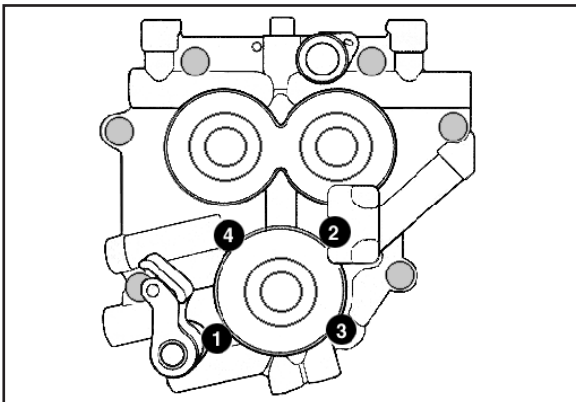

Figure 1
- K. Following sequence shown, alternately loosen and remove oil pump bolts. See **Figure 1** below left.
I. Install oil pump mounting bolts with a drop of Loctite® threadlock 242 or 243 (blue) according to procedure found in factory service manual: Gently bottom screws, then back them out ¼ turn. Center oil pump by rotating engine by hand while snugging down screws. Alternately tighten bolts to 95 in-lbs. torque in sequence shown. See **Figure 1 Page 4**. Before moving forward, verify that inner drive gears rotate freely and no binding is present.